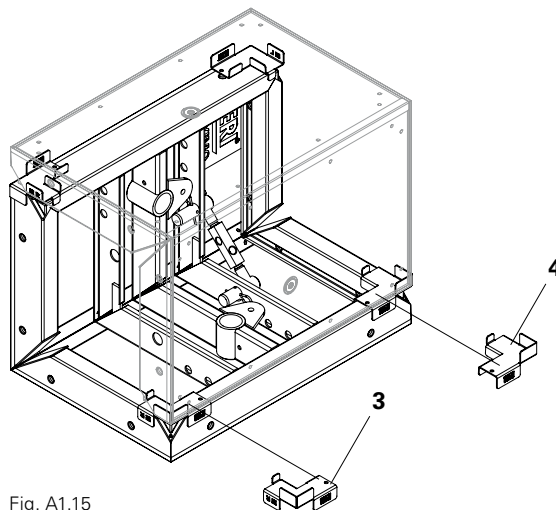

Fig. A1.15
– two shaft corners (Fig. A1.15).